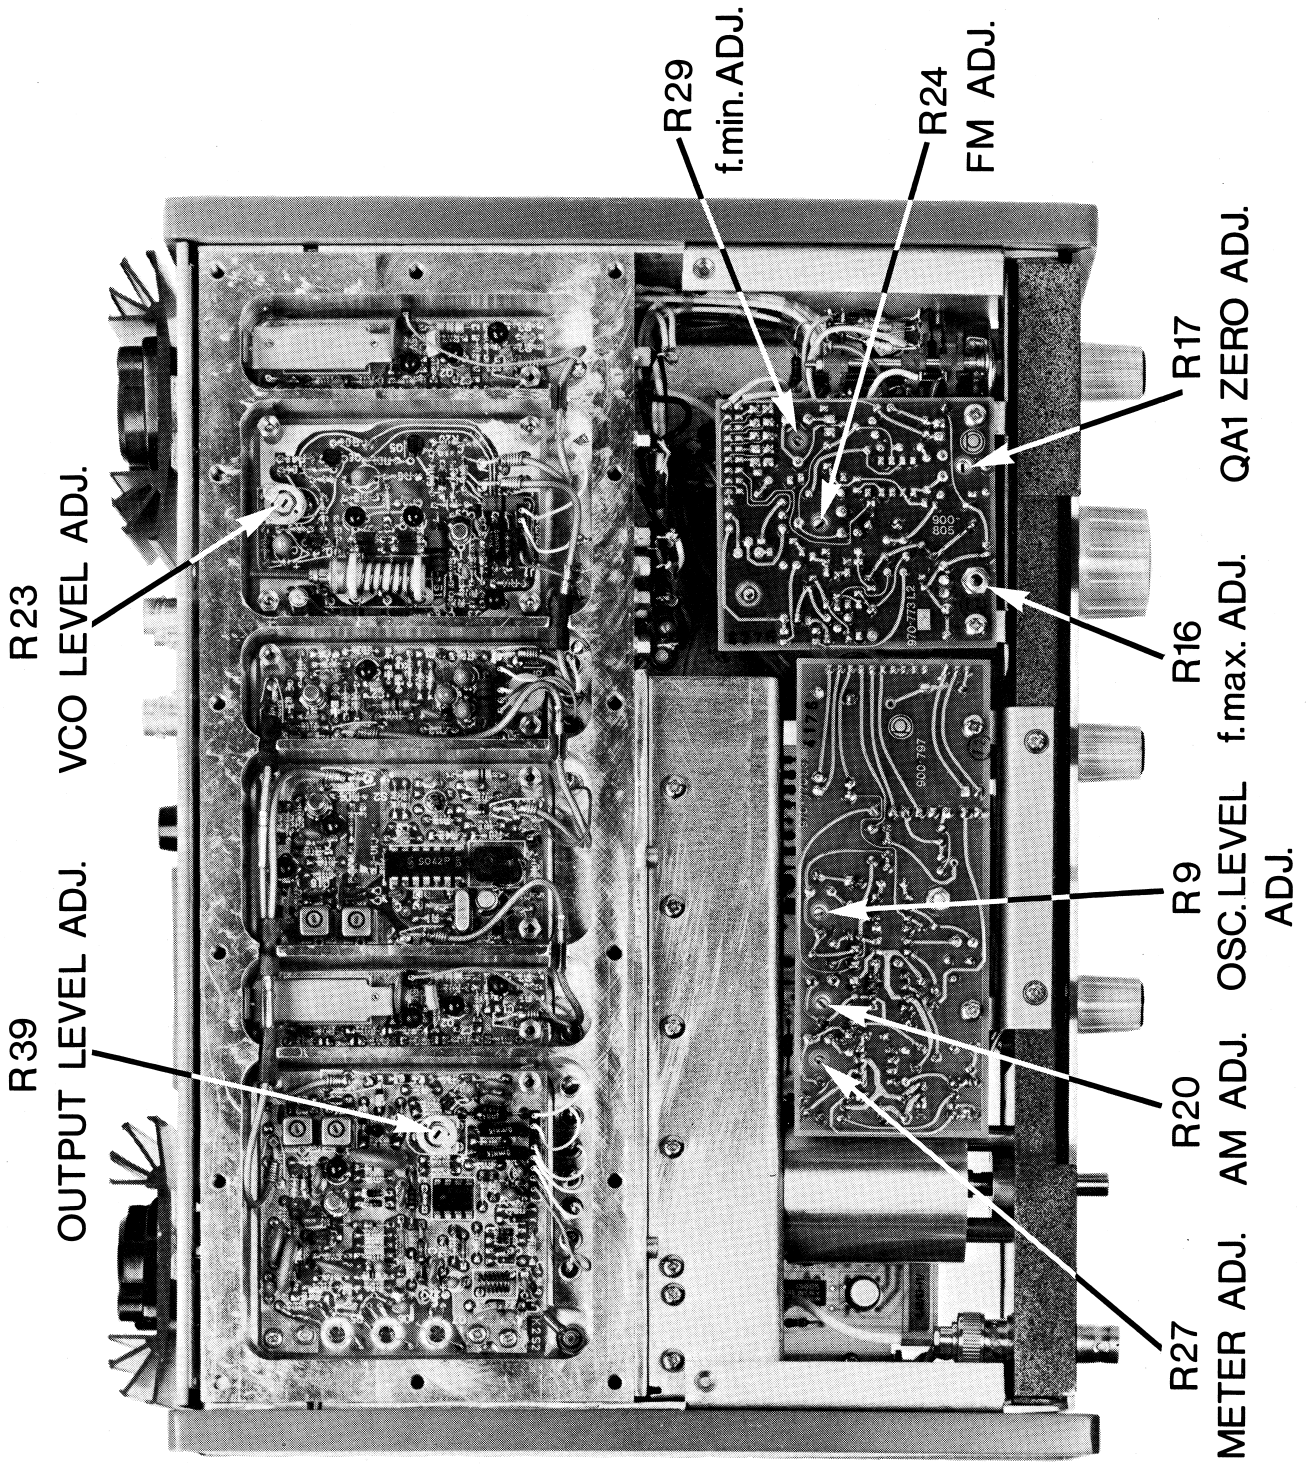
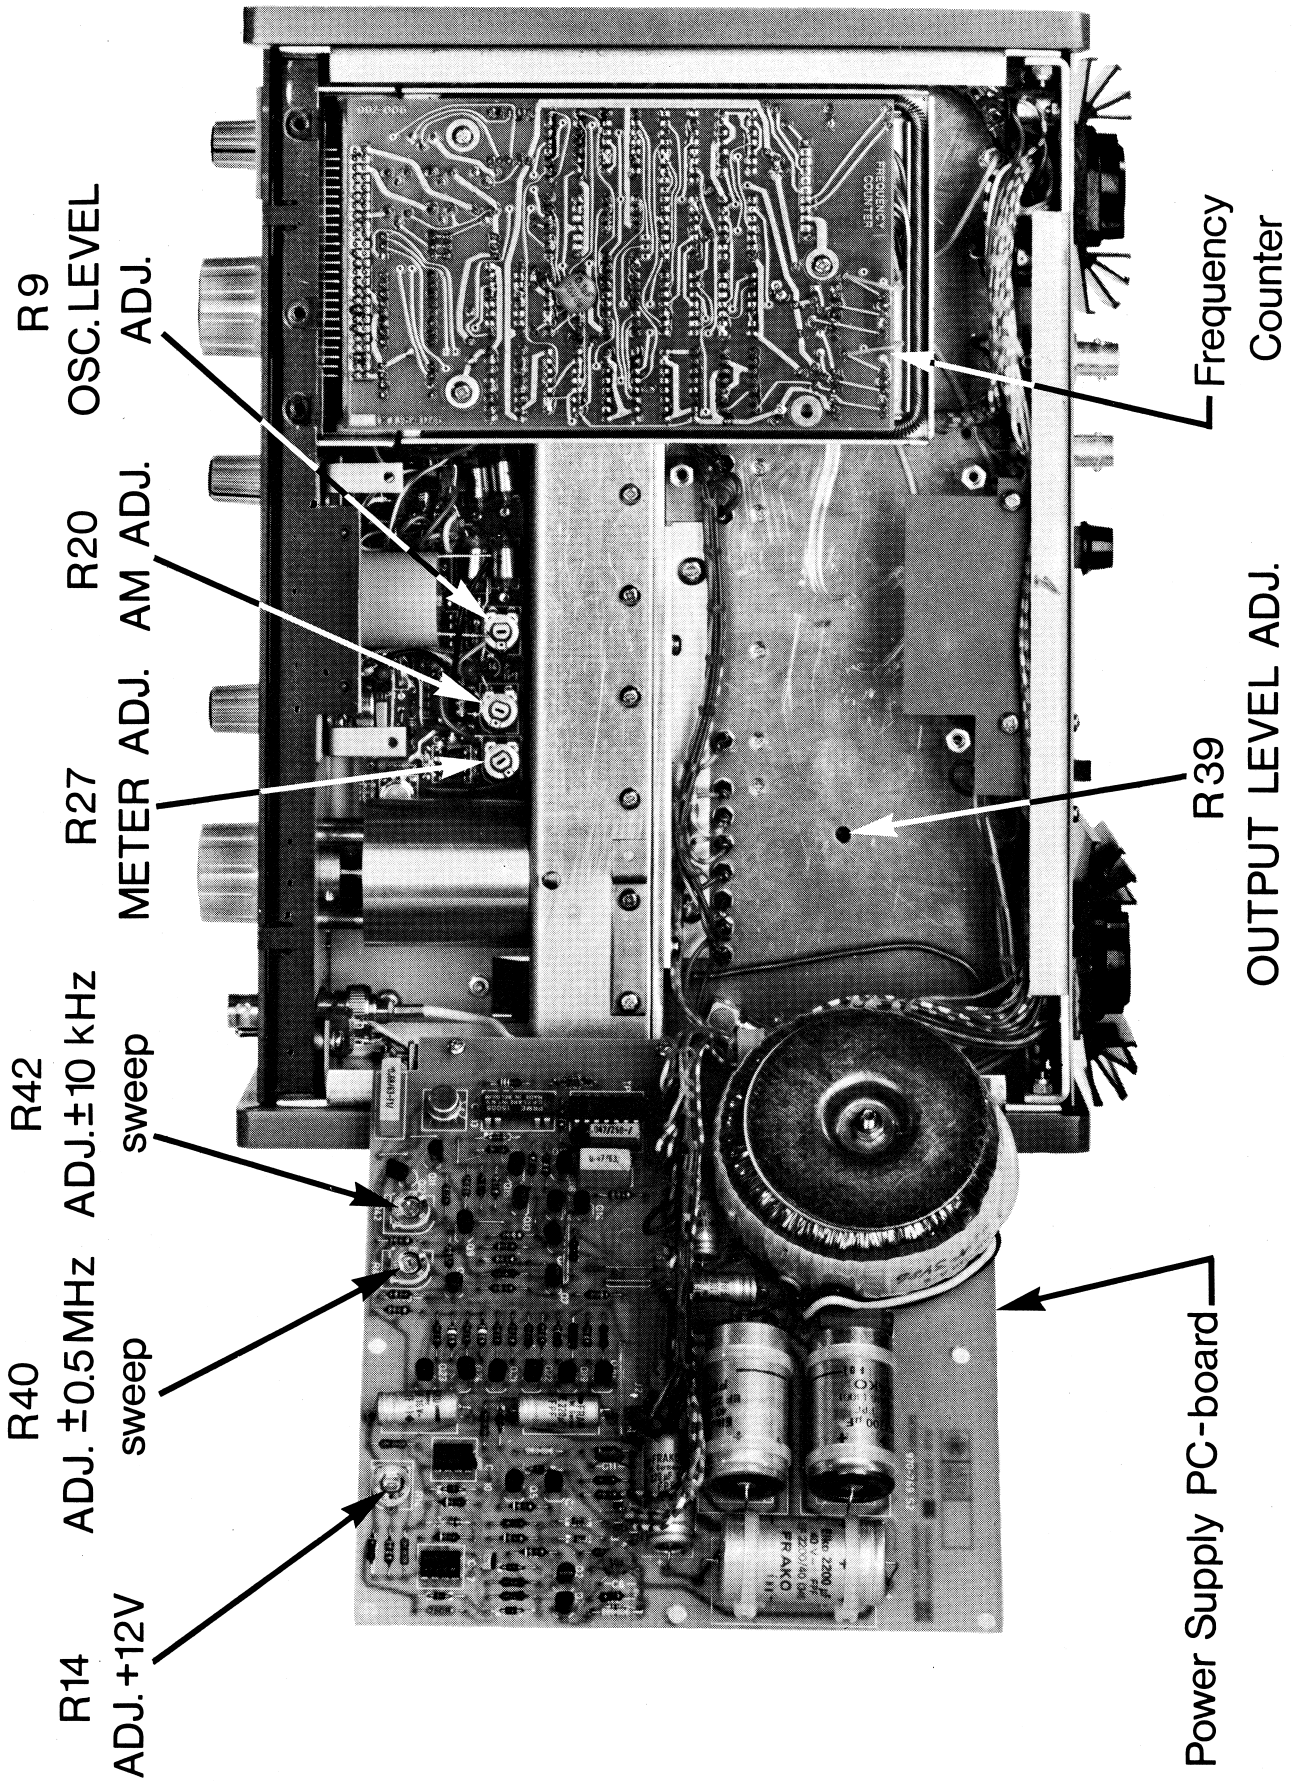
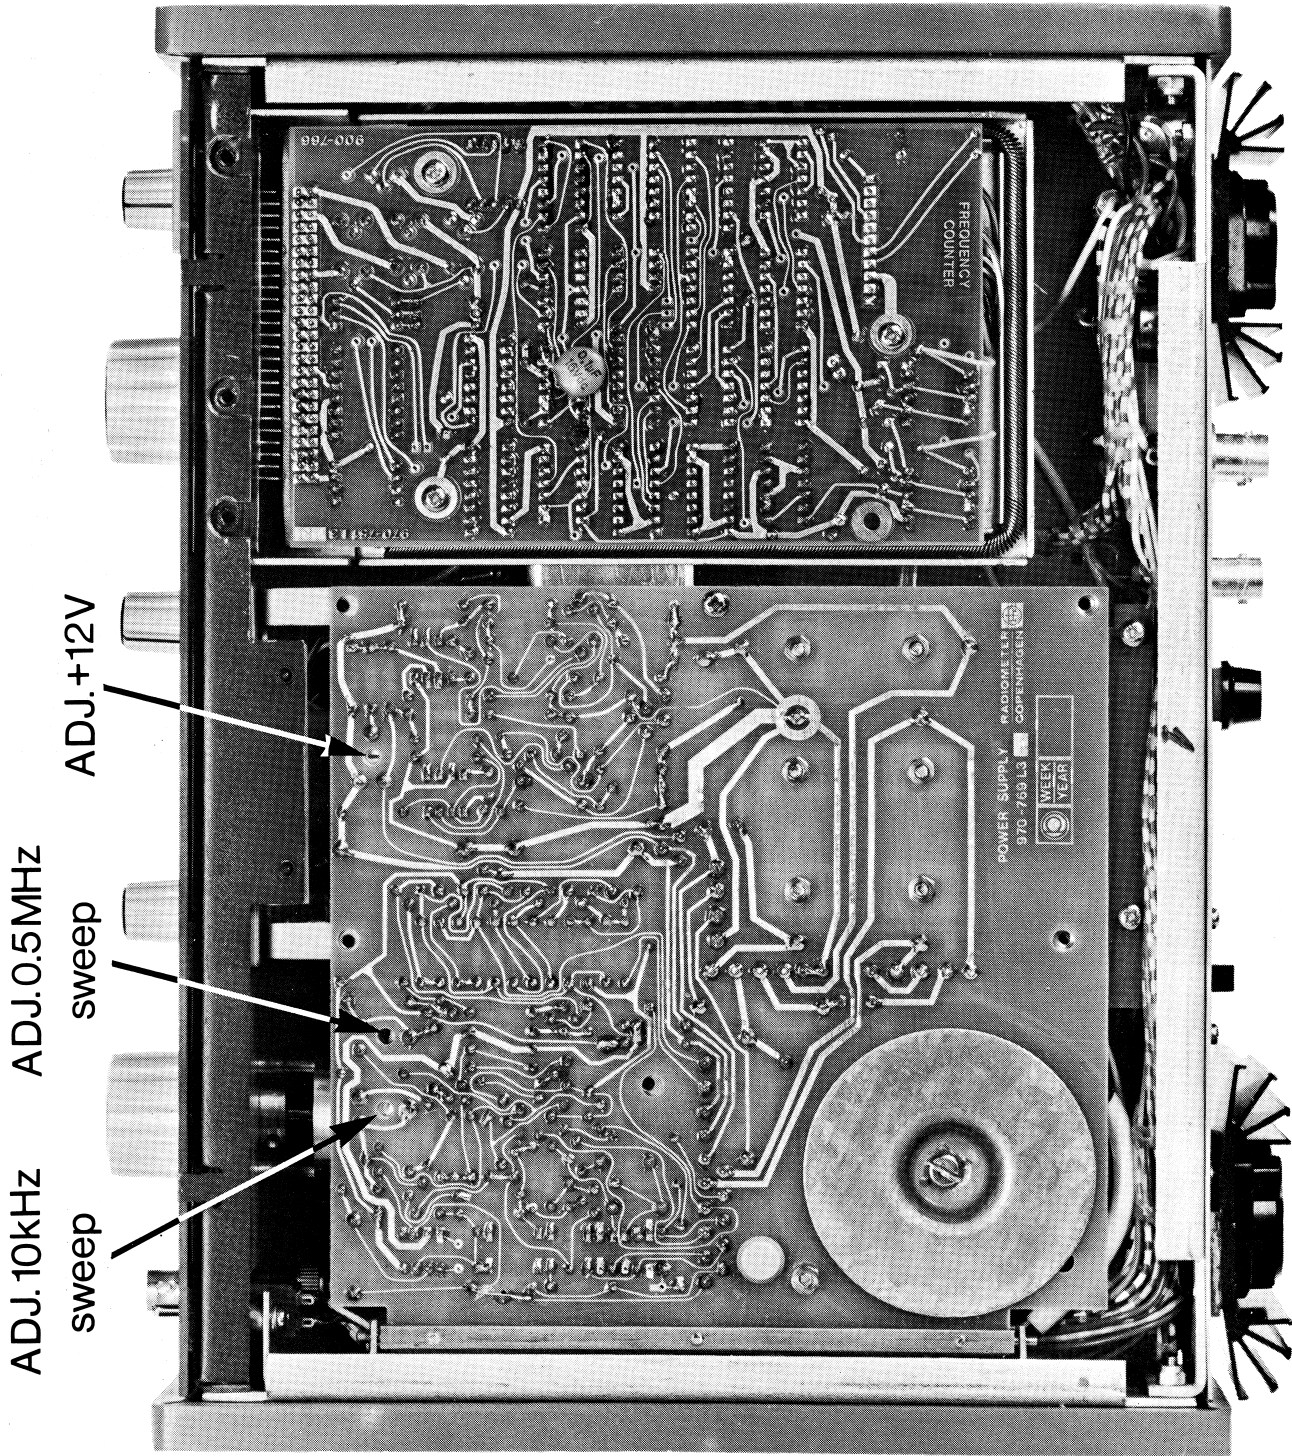

FIG. D5 Adjustment Point Locations
Fig. D6 Adjustment Point Locations
Fig.D7 Top view with Adjustment Point Locations
The +12 V supply is adjusted by potentiometer R14, see Fig. D6 or Fig. D7. The -12 V supply automatically follows the +12 V supply. The +5 V is delivered from an IC voltage regulator and cannot be adjusted. The -35 V supply is unregulated and cannot be adjusted.
Refer to Fig. D5 for the adjustment point locations.
2. Adjust the output level to -14.8 dBm into 75  $\Omega$  (-13.0 dBm into 50  $\Omega$ ), corresponding to 50 mV, with R39. Access for the adjustment is through the hole in the RF box, see Fig. D6.
3. The Modulation Meter should now read  $\pm 75$  kHz. If not, adjust to  $\pm 75$  kHz deviation with R24, located on the Frequency Control PC-board, see Fig. D5.
5. Adjust the reading of the MODULATION meter on the RE101 to  $\pm 75$  kHz by R27 (see Fig. D5 or Fig. D6).
If not, adjust to 75% AM modulation with R20, see Fig. D5 or Fig. D 6.
Set the Modulation Mode switch to position  $\pm 75$  kHz FM and adjust the internal modulation level with R9, see Fig. D5 or Fig. D6.
3. Adjust the SWEEP OUT level to  $10 V_{pp}$  with R40, see Fig. D6 or Fig. D7.
5. Adjust the SWEEP OUT level to  $10 V_{pp}$  with R42, see Fig. D6 or Fig. D7.